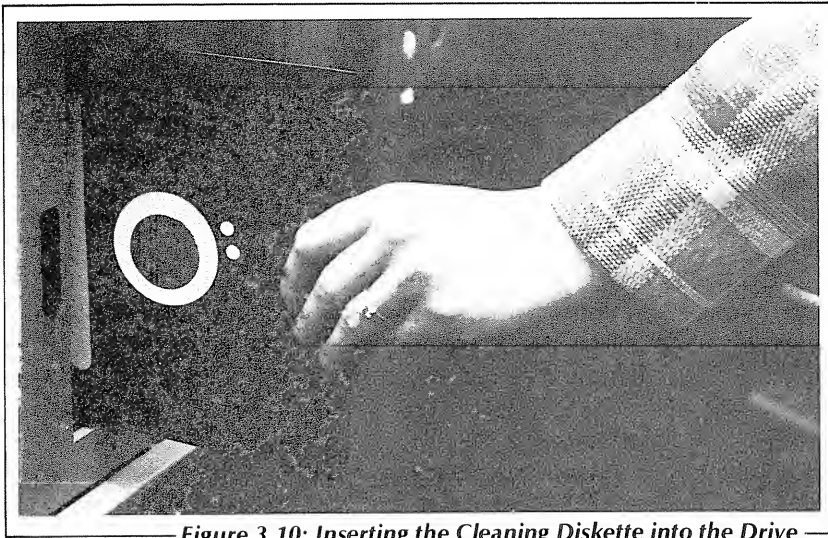

Figure 3.10: Inserting the Cleaning Diskette into the Drive
Step 2: Insert the diskette into the drive (see Figure 3.10).